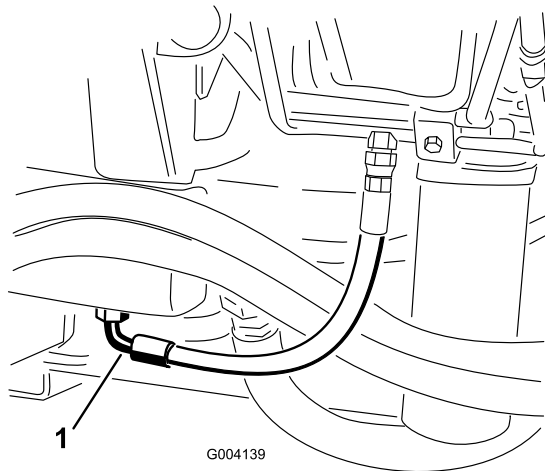

Figure 78
2. Place a large drain pan under the fitting secured to the bottom of the hydraulic fluid reservoir (Figure 78).